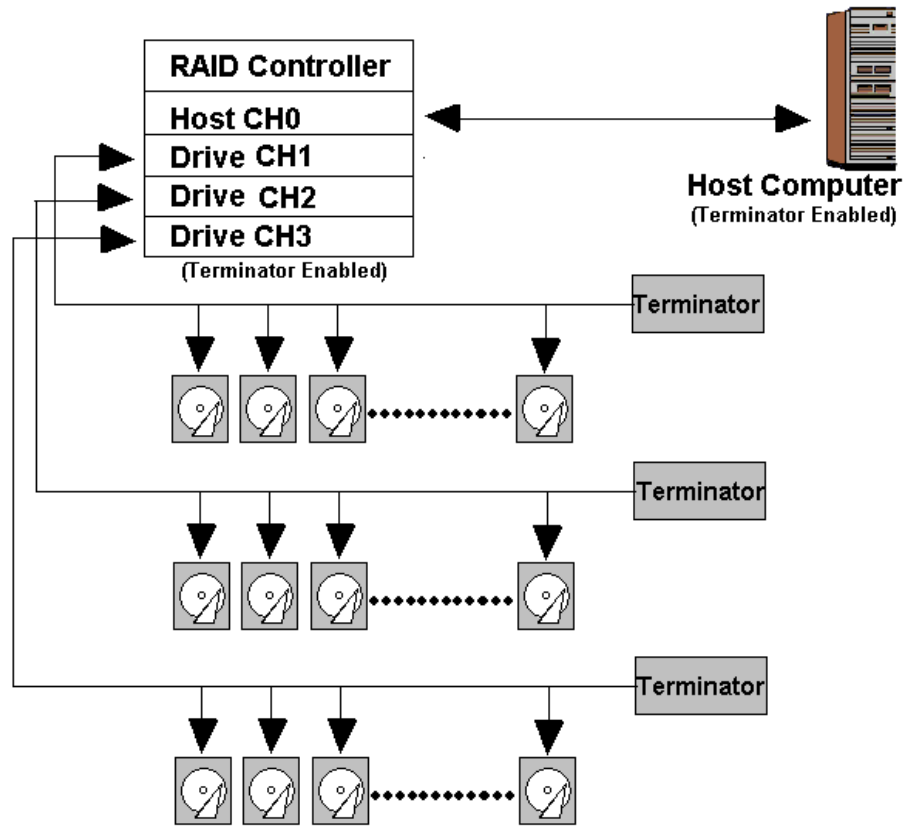

Figure 4-1: Single host Connection
Single host connection is shown in *Figure 4-1*. The single host computer manages all the logical drives (LDs). In the topology shown in *Figure 4-1* the channels are configured as shown in *Table 4-3*.
- ◆ **Creating Redundant Host Paths** – If access to data is a critical requirement, redundant data paths to different LDs or logical volumes (LVs) can be created. This is done by mapping the logical units (LDs or LVs) to both the host channels (i.e. CH0 and CH1 in *Figure 4-1*). This will ensure that if one host computer fails, the second host computer will be able to access the logical unit.